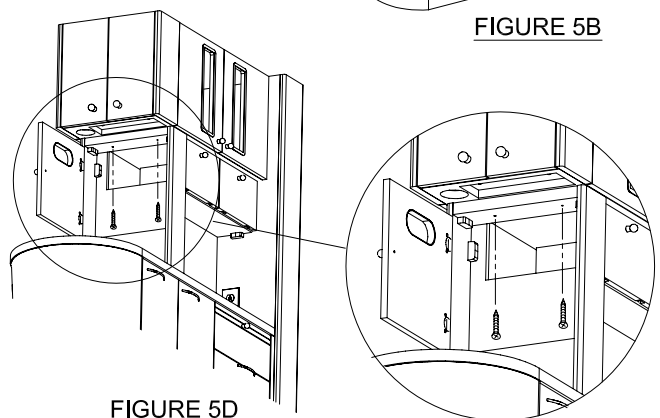

FIGURE 5D
Open the door on the front column and from beneath fasten the upper storage front by using (2) #8 x 1 3/4" FH wood screws. See Figure 5D.